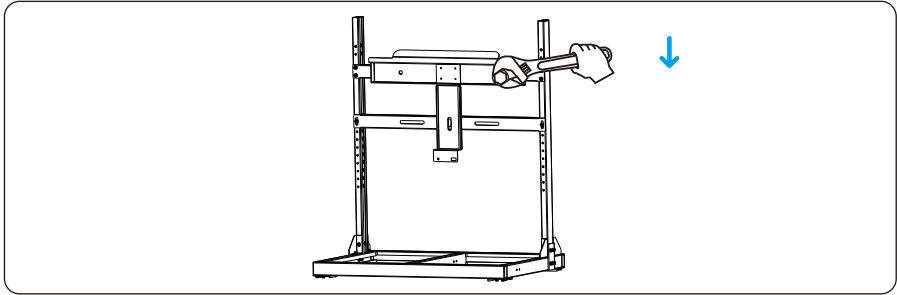

Figure 4.10 Tightening the rear panel with the support
Step 2 Tighten the rear panel with the support using M12 bolt to a torque of 42 N.m (as shown in Figure 4.10).